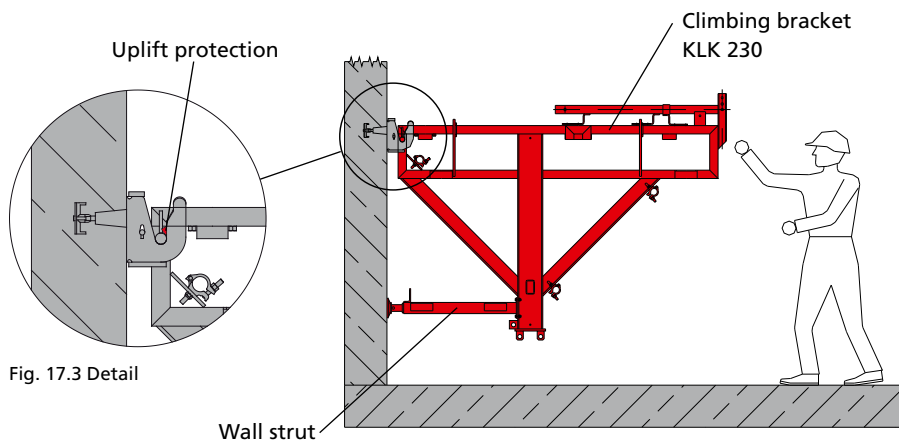

Fig. 17.2
3. Attach the climbing bracket to the suspension shoe (Fig. 17.2 through 17.4). The uplift protection automatically secures the bracket (Fig. 17.3).